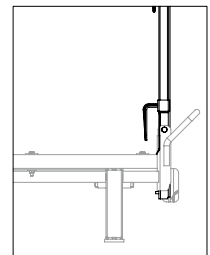

Fig. A7.07d
3. Push guardrail (62.1) downwards. → Guardrail is now secured. (Fig. A7.07d)